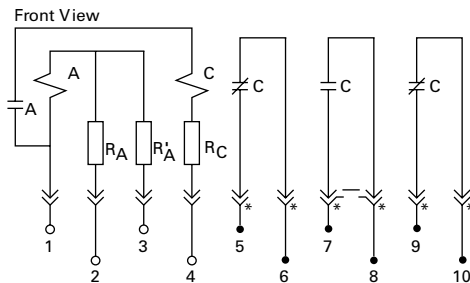

Fig. 2. Typical external connections, relay NBT12D
① 110, 250 VDC available on request.
② Refer to figures 2 through 9 for appropriate connection diagrams.